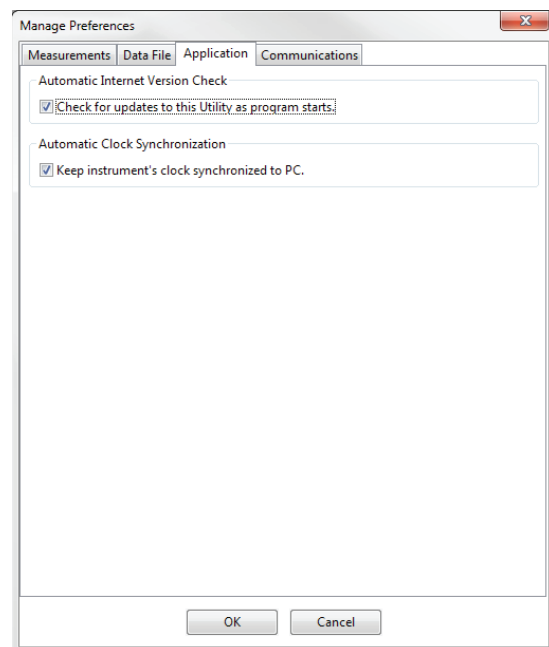

Figure 15 Application tab
• Application tab (Figure 15):